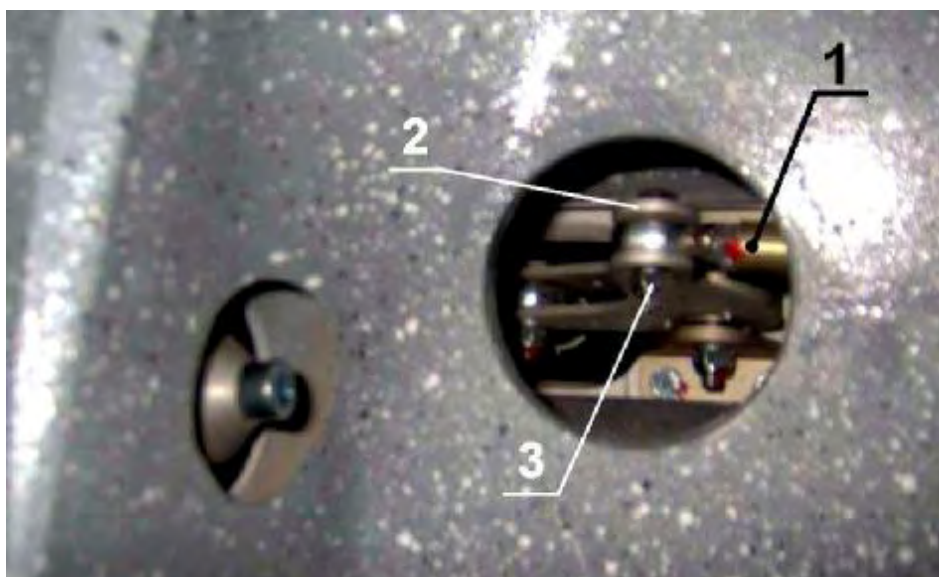

Fig. 15
- 15) Fix the rod KA6020050R (1) in the lever KA6020040R (2) with the bolt M6x30 C9996259A (3). Use only new self-locking nuts M6 (Fig. 15).